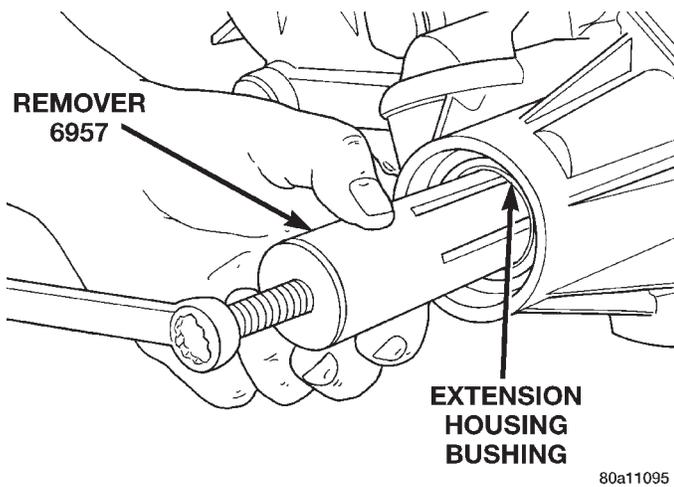

Fig. 61 Bushing Removal—Typical
(1) Remove overdrive housing yoke seal.
(2) Insert Remover 6957 into overdrive housing. Tighten tool to bushing and remove bushing (Fig. 61).